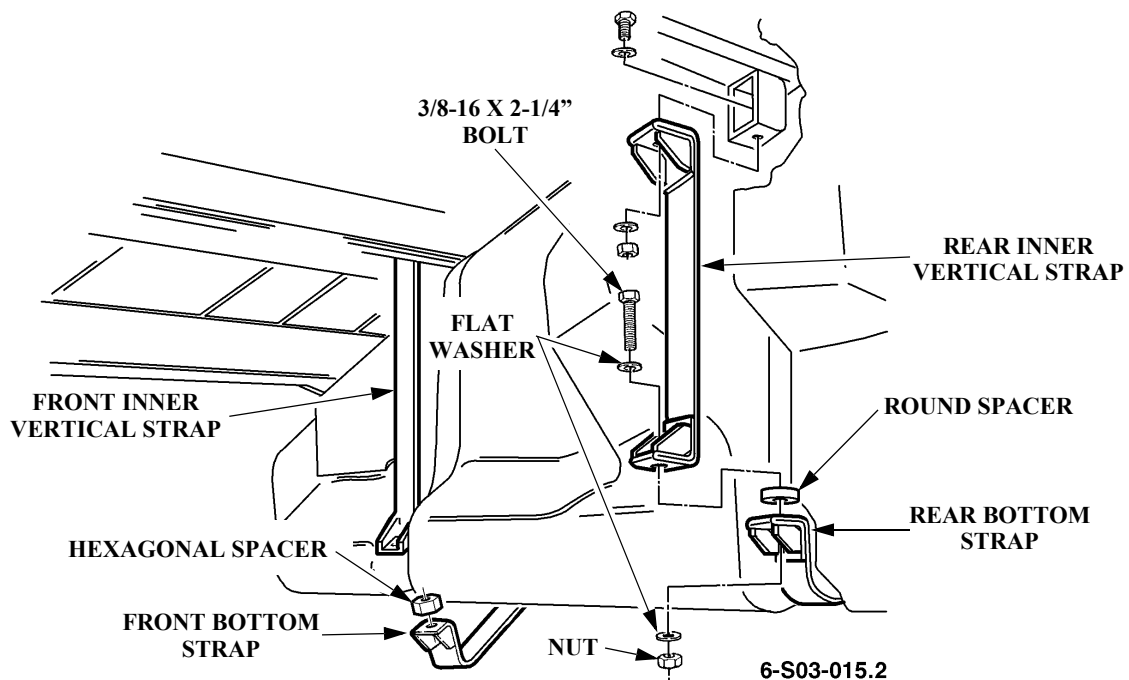

Figure 7: Tank Strap Spacer Location
40. Connect the front inner vertical tank strap to the bottom strap with the hexagonal 0.7 inch tall spacer marked “FRONT” installed between the straps using the supplied 3/8-16 x 2-1/4 inch bolt, flat washers and nut. Do not fully tighten at this time to allow positioning of the tank (See Figure 7).